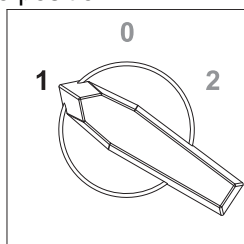

Figure 3-43. Flex Switch—Position 1
- See Figure 3-43. Switch the flex switch (if equipped) to position 1.